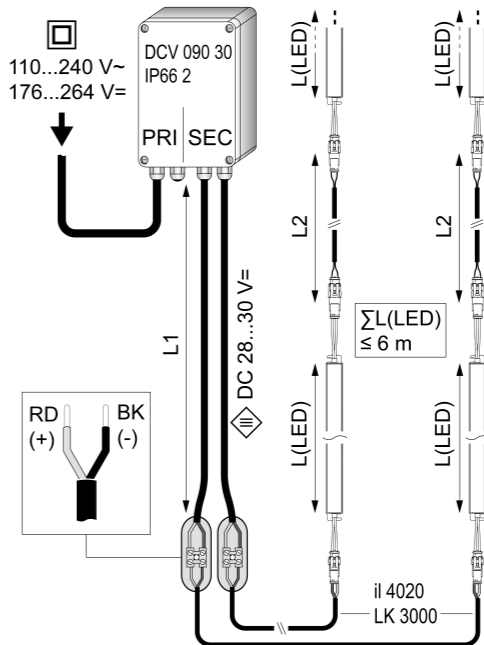

Figure 9: Circuit diagram
- Connect the LED lighting inserts according to the circuit diagram (Figure 9).